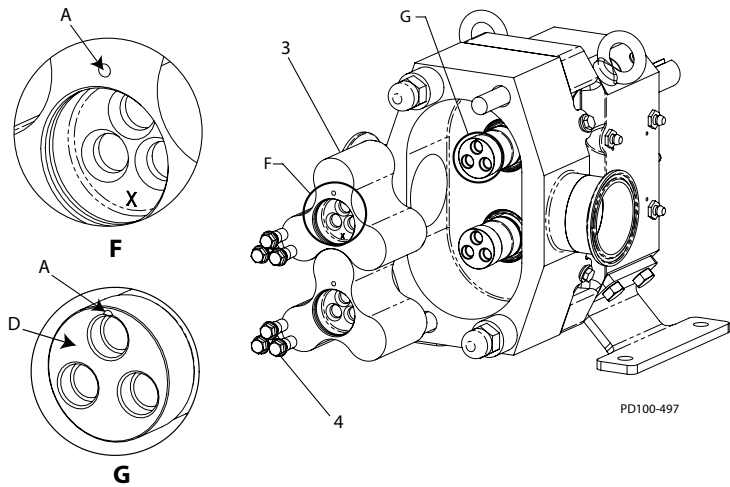

Figure 56 - Rotor Installation
- 2. The face of the shaft must be free of raised edges or burrs (see Figure 56, Detail G, item D).
- 3. **Re-using rotors:** Apply a compatible lubricant to the o-rings and install the marked rotor onto the drive shaft and the unmarked rotor onto the short shaft, making note of the alignment reference mark on the shafts for rotor positioning. (See item A in Figure 56, Detail F and G.)
**Installing new rotors:** Apply a compatible lubricant to the o-rings and install the rotors onto the shafts, making note of the alignment reference mark on the shafts for rotor positioning. (See item A in Figure 56, Detail F and G.) Stamp an "X" approximately 3mm high in the face of the counterbore opposite the alignment reference mark. See Figure 56, Detail F; also see Figure 31 for a larger view.
- 4. Install one lug screw (Figure 56, item 4) into the hole nearest the reference mark in each rotor.